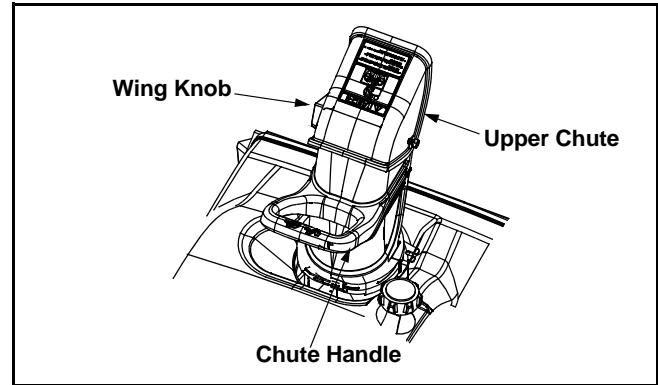

Figure 5
- Position the discharge chute opening by using the Chute Handle to throw the snow in the desired direction. See Figure 5.